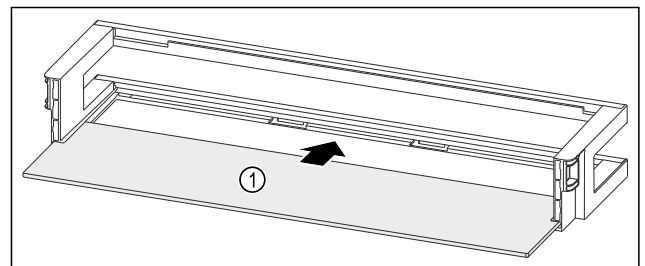

Fig. 112 Door racks with shelf
- Push the shelf Fig. 112 (1) into the side cutouts.